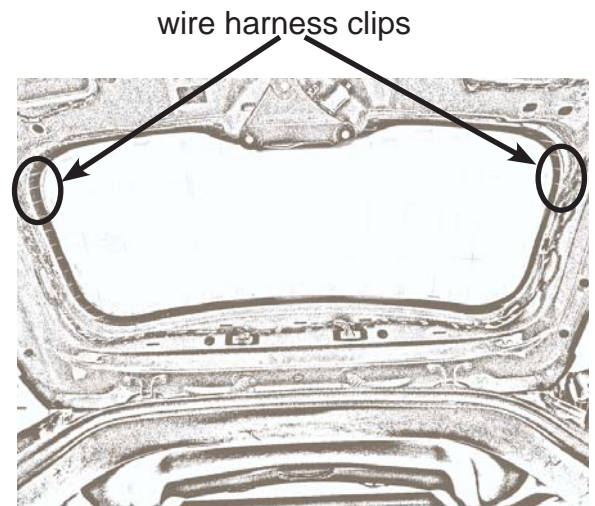

Figure 9
B. Remove (1) wire harness clip from each side at lower corner (Fig 9 & 10)